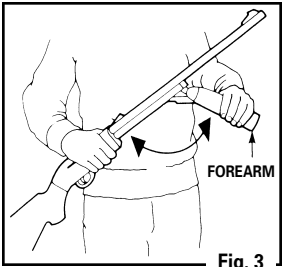

Fig. 3
- Open the forearm all the way until it stops (Fig. 3). Be sure to hold the forearm firmly as you open it. It could spring back into the closed position, possibly causing injury. Place your hands in the same positions **shown in Fig. 3** in order to avoid being pinched, should you lose hold of the forearm. Do not twist the forearm while pumping. **Use straight strokes to prevent breakage.**